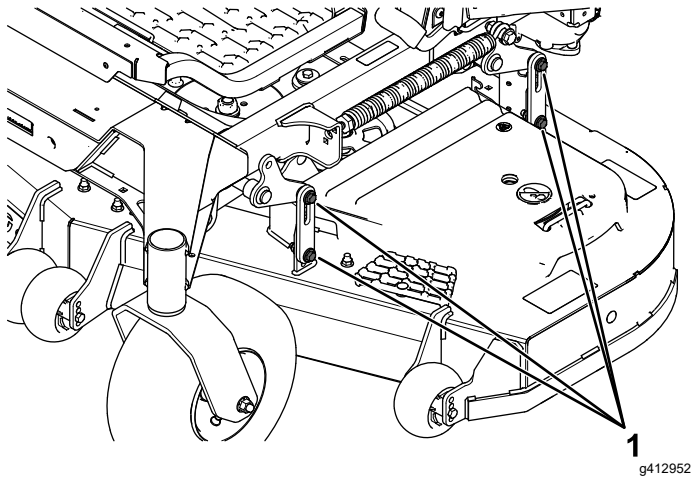

Figure 102
16. Loosen the bolts (Figure 102) on all 4 corners and ensure that the mower deck is sitting securely on all 4 blocks.